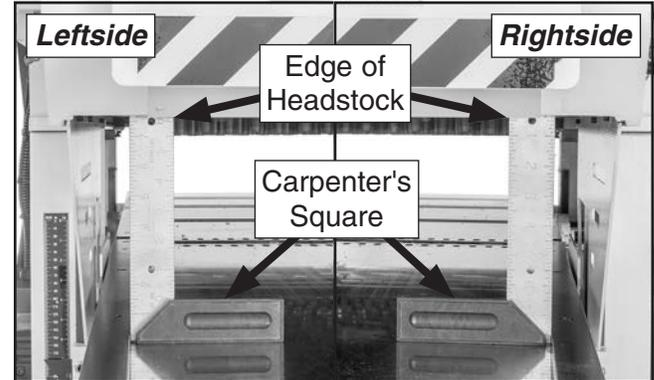

Figure 109. Carpenter's square placed under front edge of headstock.
6. Place carpenter's square on rightside and leftside of infeed table under front edge of headstock (see **Figure 109**).